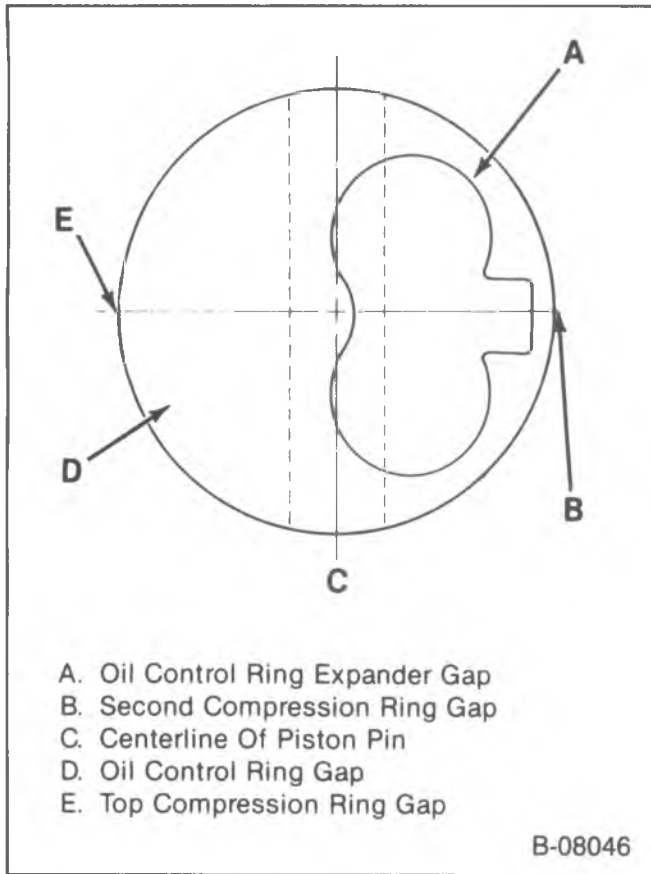

Figure 28—Ring Gap Location
- Locate the piston ring end gaps as shown in figure 28. Lubricate the piston and rings with engine oil.